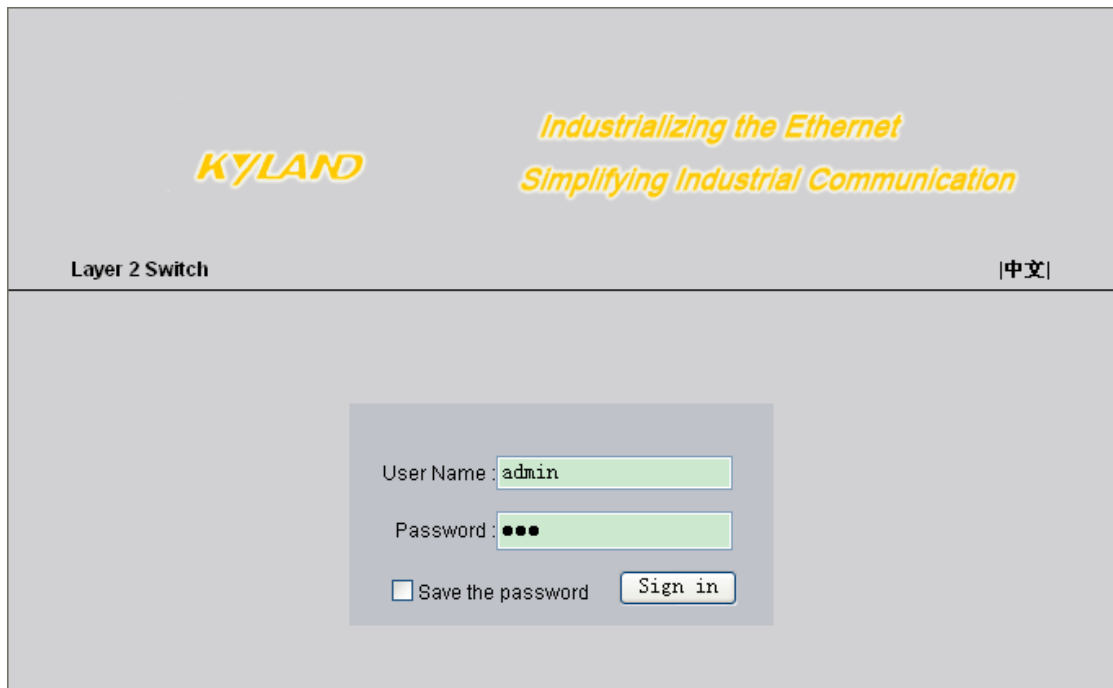

Figure 1: Login page
Step 1: Connect the switch to PC with Ethernet. Type the IP address of the switch in IE browser, such as IP is 192.168.0.2, press "Enter", you can see the page as in Figure 1. Enter the default username "admin" and the default password "123", click "Sign in" to enter the WEB's main page.